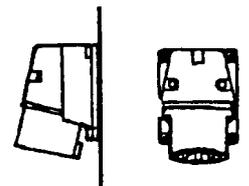

Figure 36 CEE male connector.
- 133* 32 A, 380-415 V, 3p + PE (see Figure 36).
- 136* 32 A, 380-415 V, 3p + N + PE (see Figure 36).